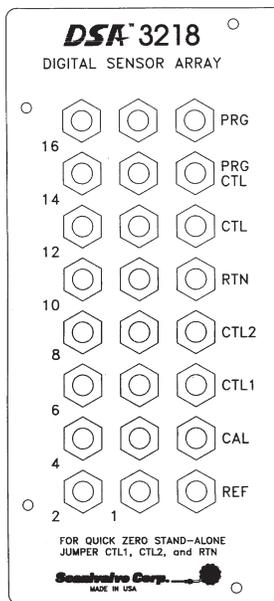

FIGURE 2.8 - DSA3218-PTP/16Px TOP PANEL
The basic DSA3218-PTP/16Px module provides 16 channels of the same ‘gauge’ pressure range sensors. These 16 pressure transducers are configured into two (2) groups of eight (8) each. Each group of eight (8) transducers shares a common calibration valve and a common reference manifold. Single range modules tie the two reference manifolds together and the two calibration valves to provide the user with a single reference and a single calibration port to connect to. Figure 2.8 depicts the top panel of a standard DSA3217-PTP/16Px.